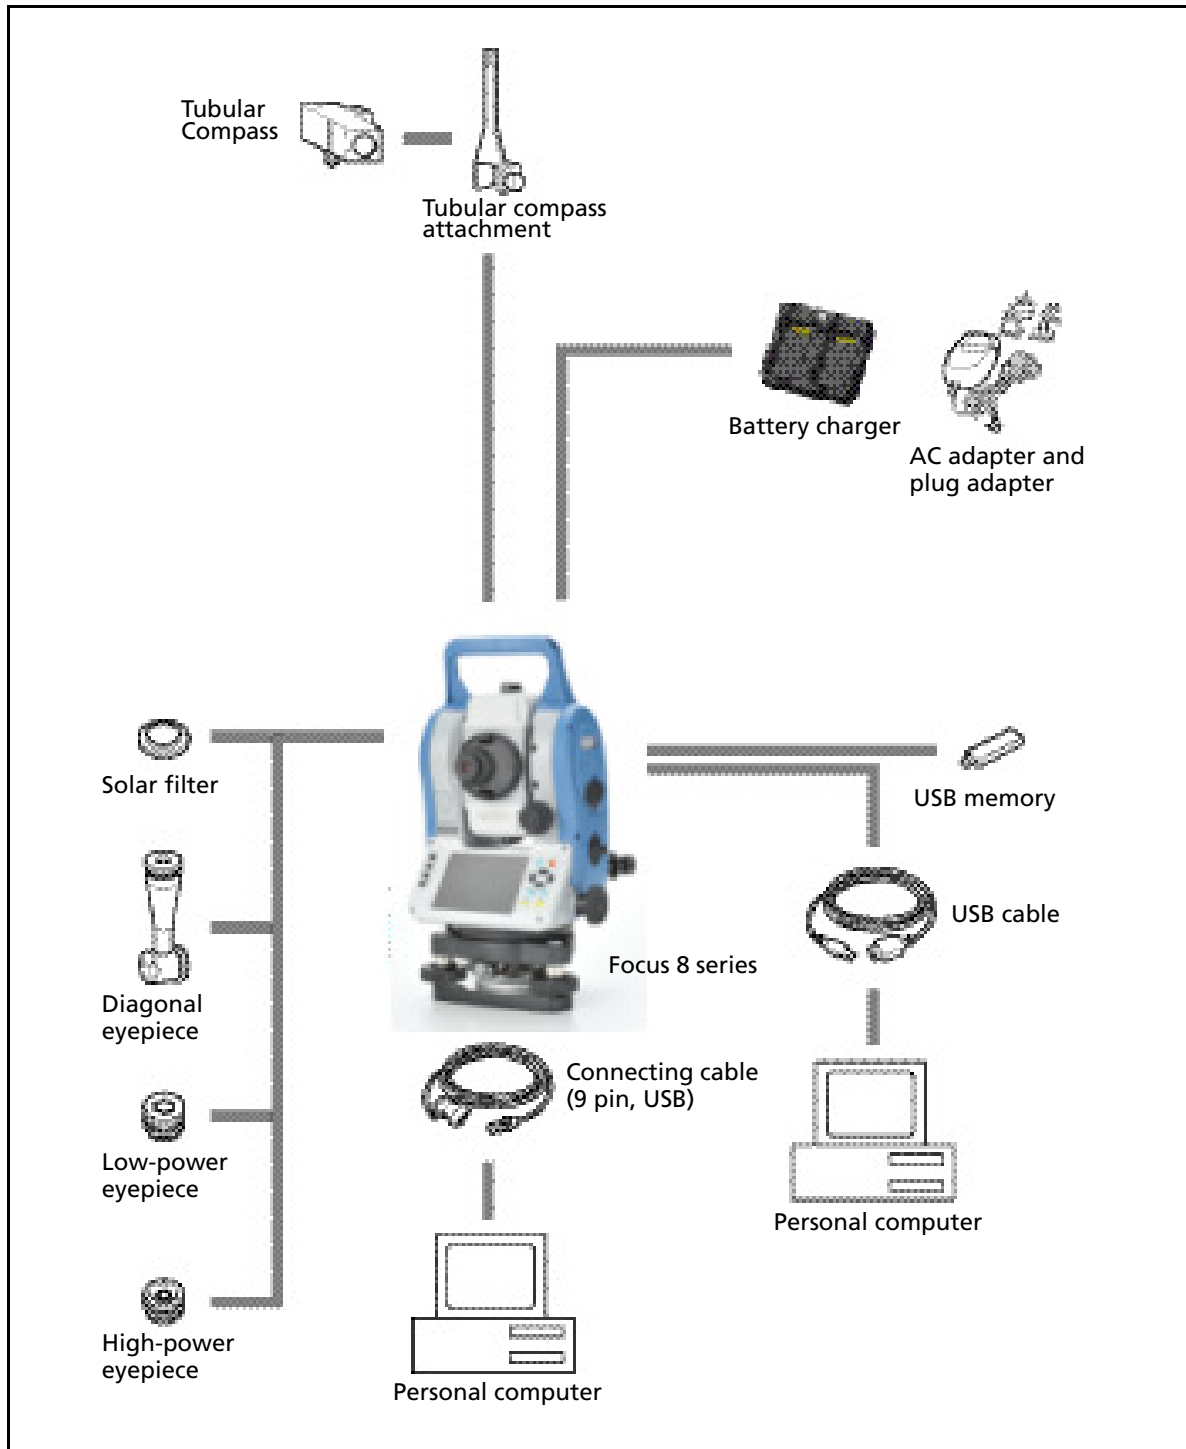

Figure 6.1 Measurement side
**CAUTION** – Except for the connection shown in Figure 6.1 on page 64, use of this connector is at your own risk.